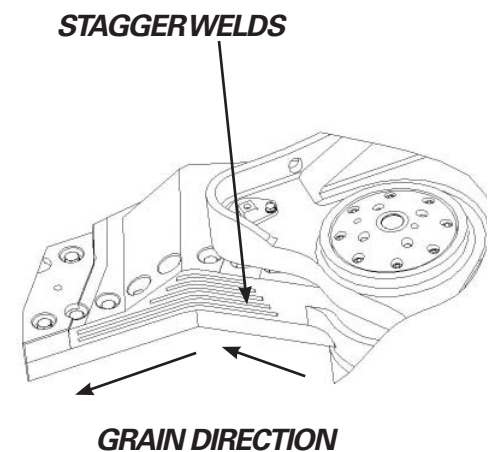

FIGURE 5-25
4. To hardsurface the area alongside the upper blades, establish the pattern with three or four passes of build-up. These beads should run parallel to the blades from behind the Saber Tip to approximately the mid-point of the primary blade (see **Figure 5-25**).